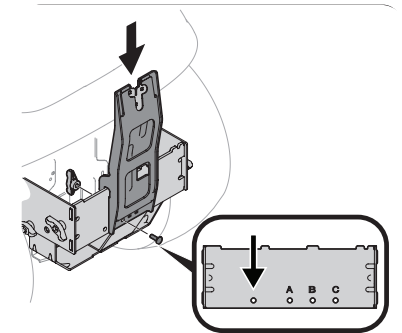

Figure 5
2. Align the left hole on the vertical support with the farthest left hole. See Figure 5.
3. Secure the vertical support to the mounting assembly using a carriage bolt (710-0276) and a wing knob (720-04122) from hardware pack 689-02364. Refer to Figure 5.